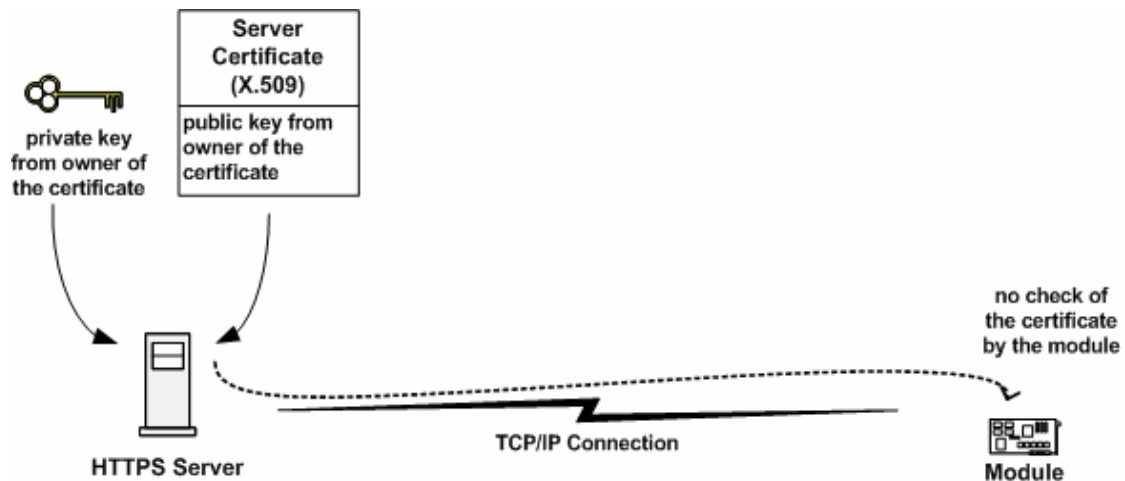

Figure 59: Mode 1 – Customer Root Certificate does not exist
- No examination of the server certificate takes place when setting up the connection. The authenticity of the server certificate is not verified. See Figure 59.